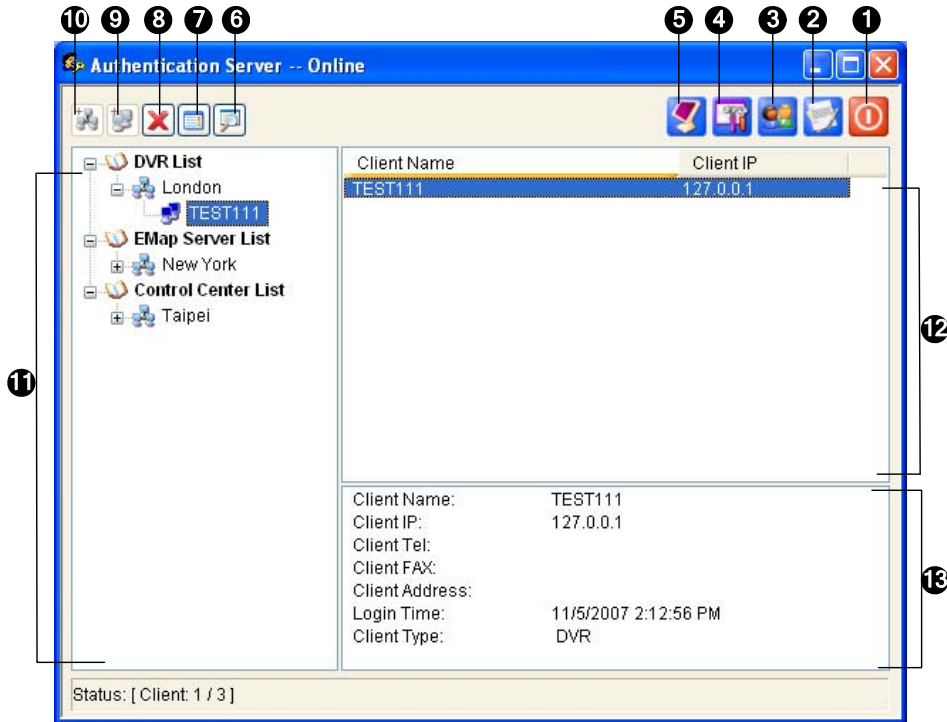

Figure 11-16
1. To create a group, click the **Add An Area** button (No.10, Figure 11-16).
2. To create a client under the group, click the **Add A Client** button (No.9, Figure 11-16). This displays the Client Information dialog box.
1. Click the **Account Setup** button (No.3, Figure 11-16) and select **Password Setup** to display the Password Setup window. The window is the same as the Password Setup window in Main System, except the following section.
1. Click the **Account Setup** button (No.3, Figure 11-16) and select **AD Setup** to access the active directory setup page. This dialog box appears.
1. Click the **Server Setup** button (No. 4, Figure 11-16). This dialog box appears.
4. Click the **Start/Stop Service** button (No. 5, Figure 11-16) to start the services.